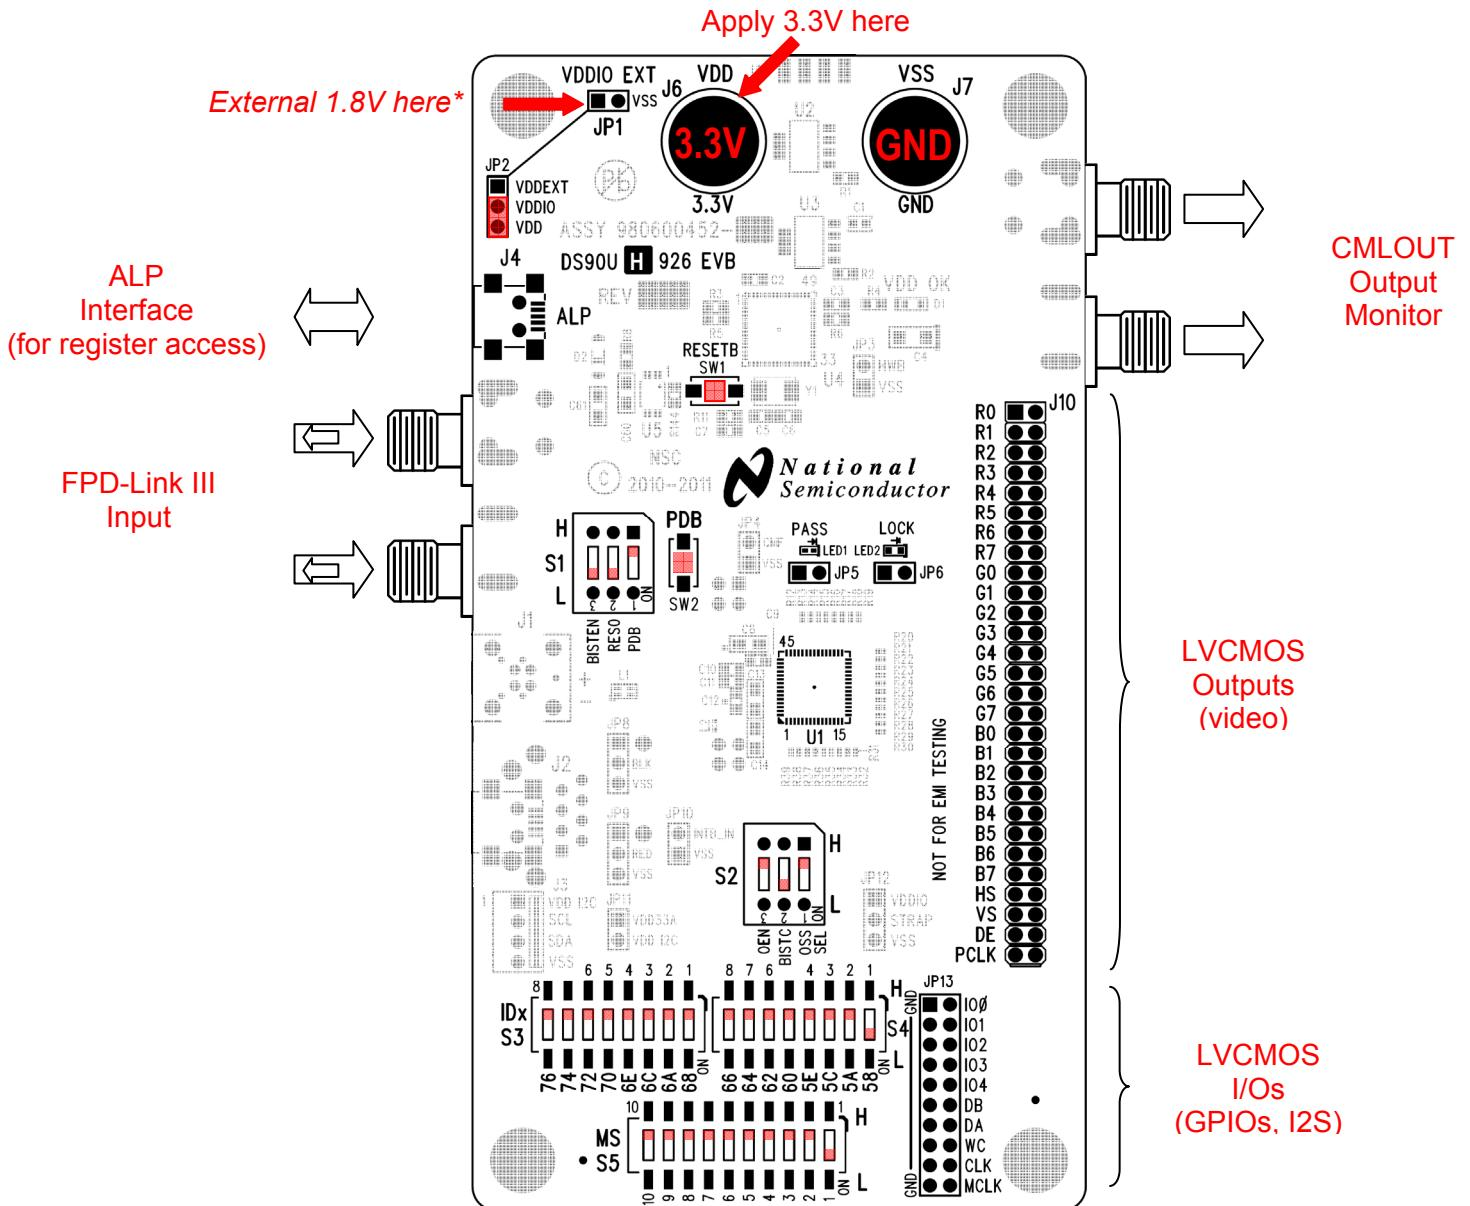

Figure 1: DS90UH926Q EVB
Make sure S1, S2, S3, S4, S5, and JP2 are configured as shown in Figure 1.
- 5) Go back to figure 1 and double check factory settings.